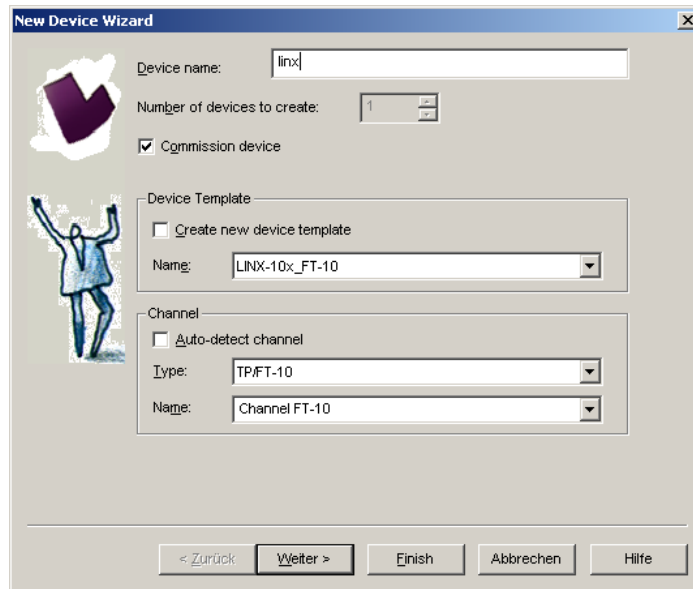

Figure 116: Create a new device in the drawing.
1. In your LonMaker drawing, drag a device stencil into the drawing. Enter an appropriate name as shown in Figure 116.